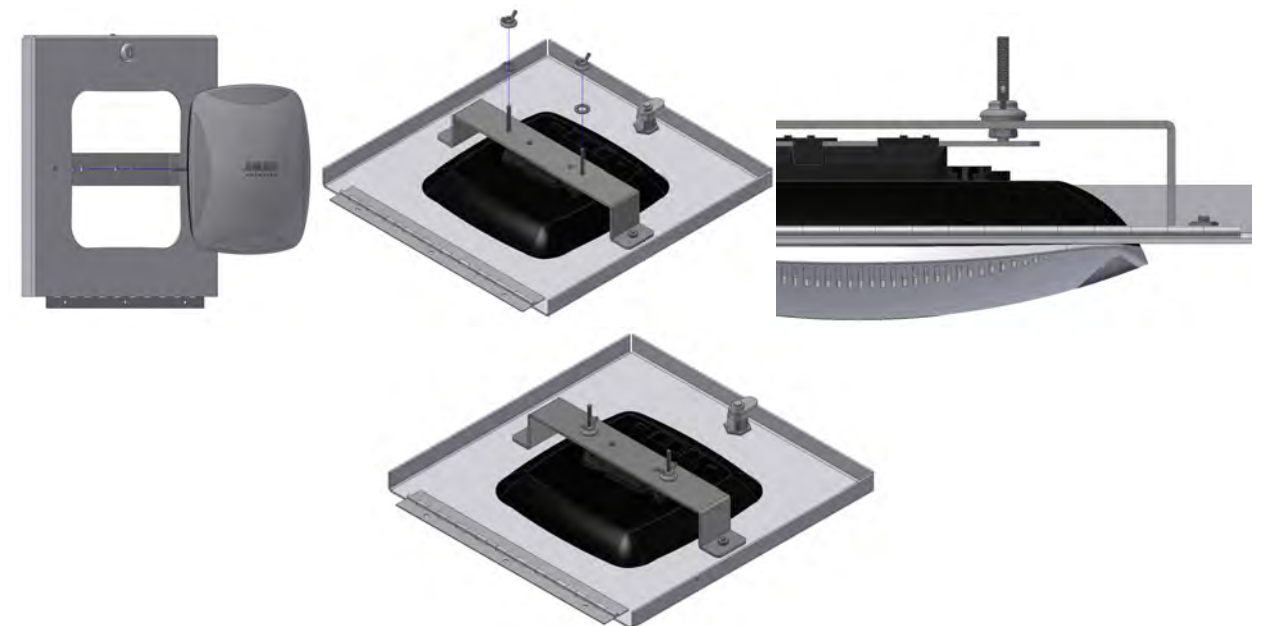

Figure 5
Step 5 – Align the threaded studs to the two outer holes in the bracket attached to the door. Once the access point is snug in the hole, place the lock washer and wing nut onto the threaded rod. Tighten wing nuts until they are snug. With your fingers, tighten the hex nuts on the underside of the bracket then re-tighten the wing nuts until they no longer move freely (Ref. Figure 5).